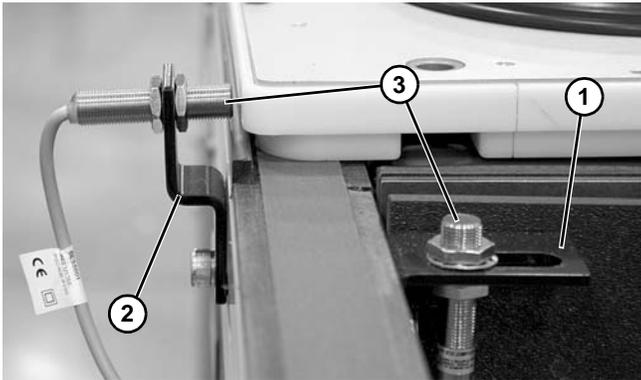

Figure 94
It is recommended to use an optional bottom mount (**Figure 94, item 1**) or side mount (**Figure 94, item 2**) sensor bracket to mount a 12 mm barrel proximity sensor (**Figure 94, item 3**) downstream to signal the station is clear. See “Optional Sensors” on page 8